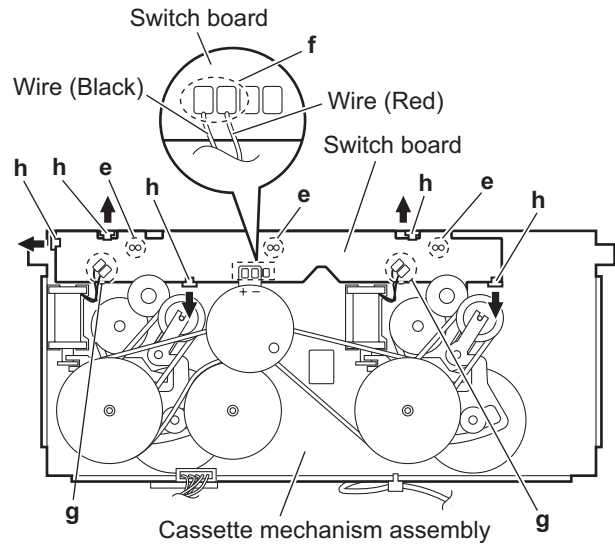

Fig.8
3.3.4 Removing the leaf switches (See Fig.8)
- (1) From the back side of the cassette mechanism assembly, remove the solders from the soldered sections **e** attaching the leaf switches on the switch board.
- (2) From the front side of the cassette mechanism assembly, pull out the leaf switches.
3.3.5 Removing the switch board (See Fig.8)